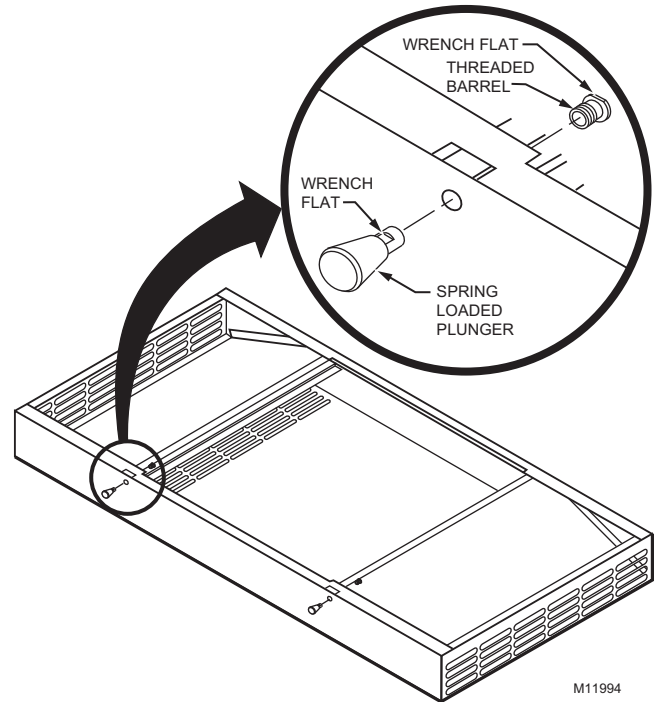

Fig. 7. Lid assembly.
1. Pull the plunger back and twist a quarter turn to reveal the wrench flat on the body of the spring loaded plunger (see Fig. 7.)